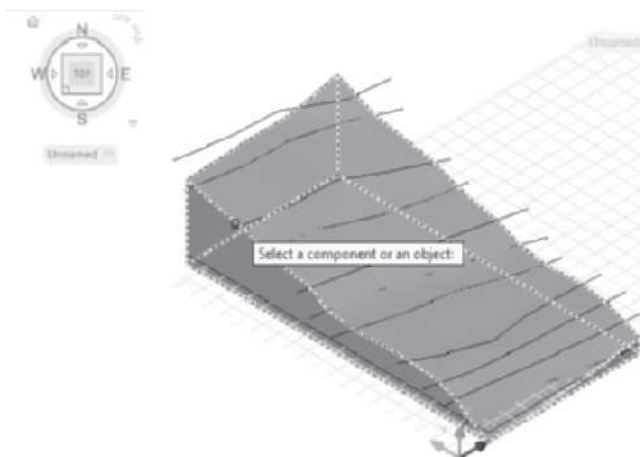

FIGURE 4.62 Assigning material to the Body component of the mass element
9. Choose **Site Construction. Planting.Groundcover.Grass.Thick** material from the Materials palette. Move the cursor to the workspace and select the mass element as shown in Figure 4.62. Press ENTER to apply the material to the style of the drape.